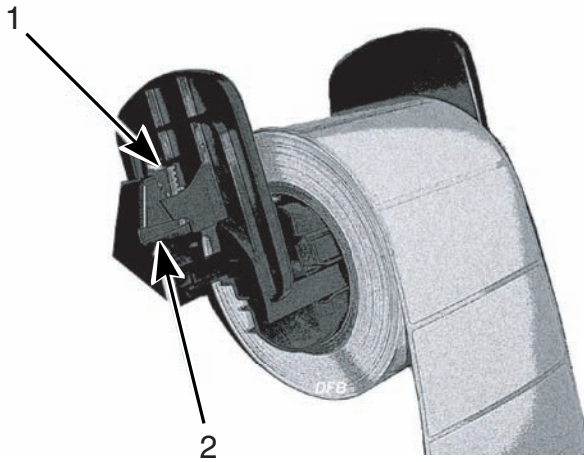

Figure 7, Labeling Material
3. Slide the Brady labeling material roll onto the material supply holder and reinstall the end piece (**Figure 7, 1**), which will automatically center the roll on the holder.
4. Reinsert the material supply holder onto the frame. Ensure the sensors under the side tabs (**Figure 7, 2**) are properly seated in the frame so the printer will correctly read the material identification tag. Ensure the material rolls from the top of the roll as shown in **Figure 7**.